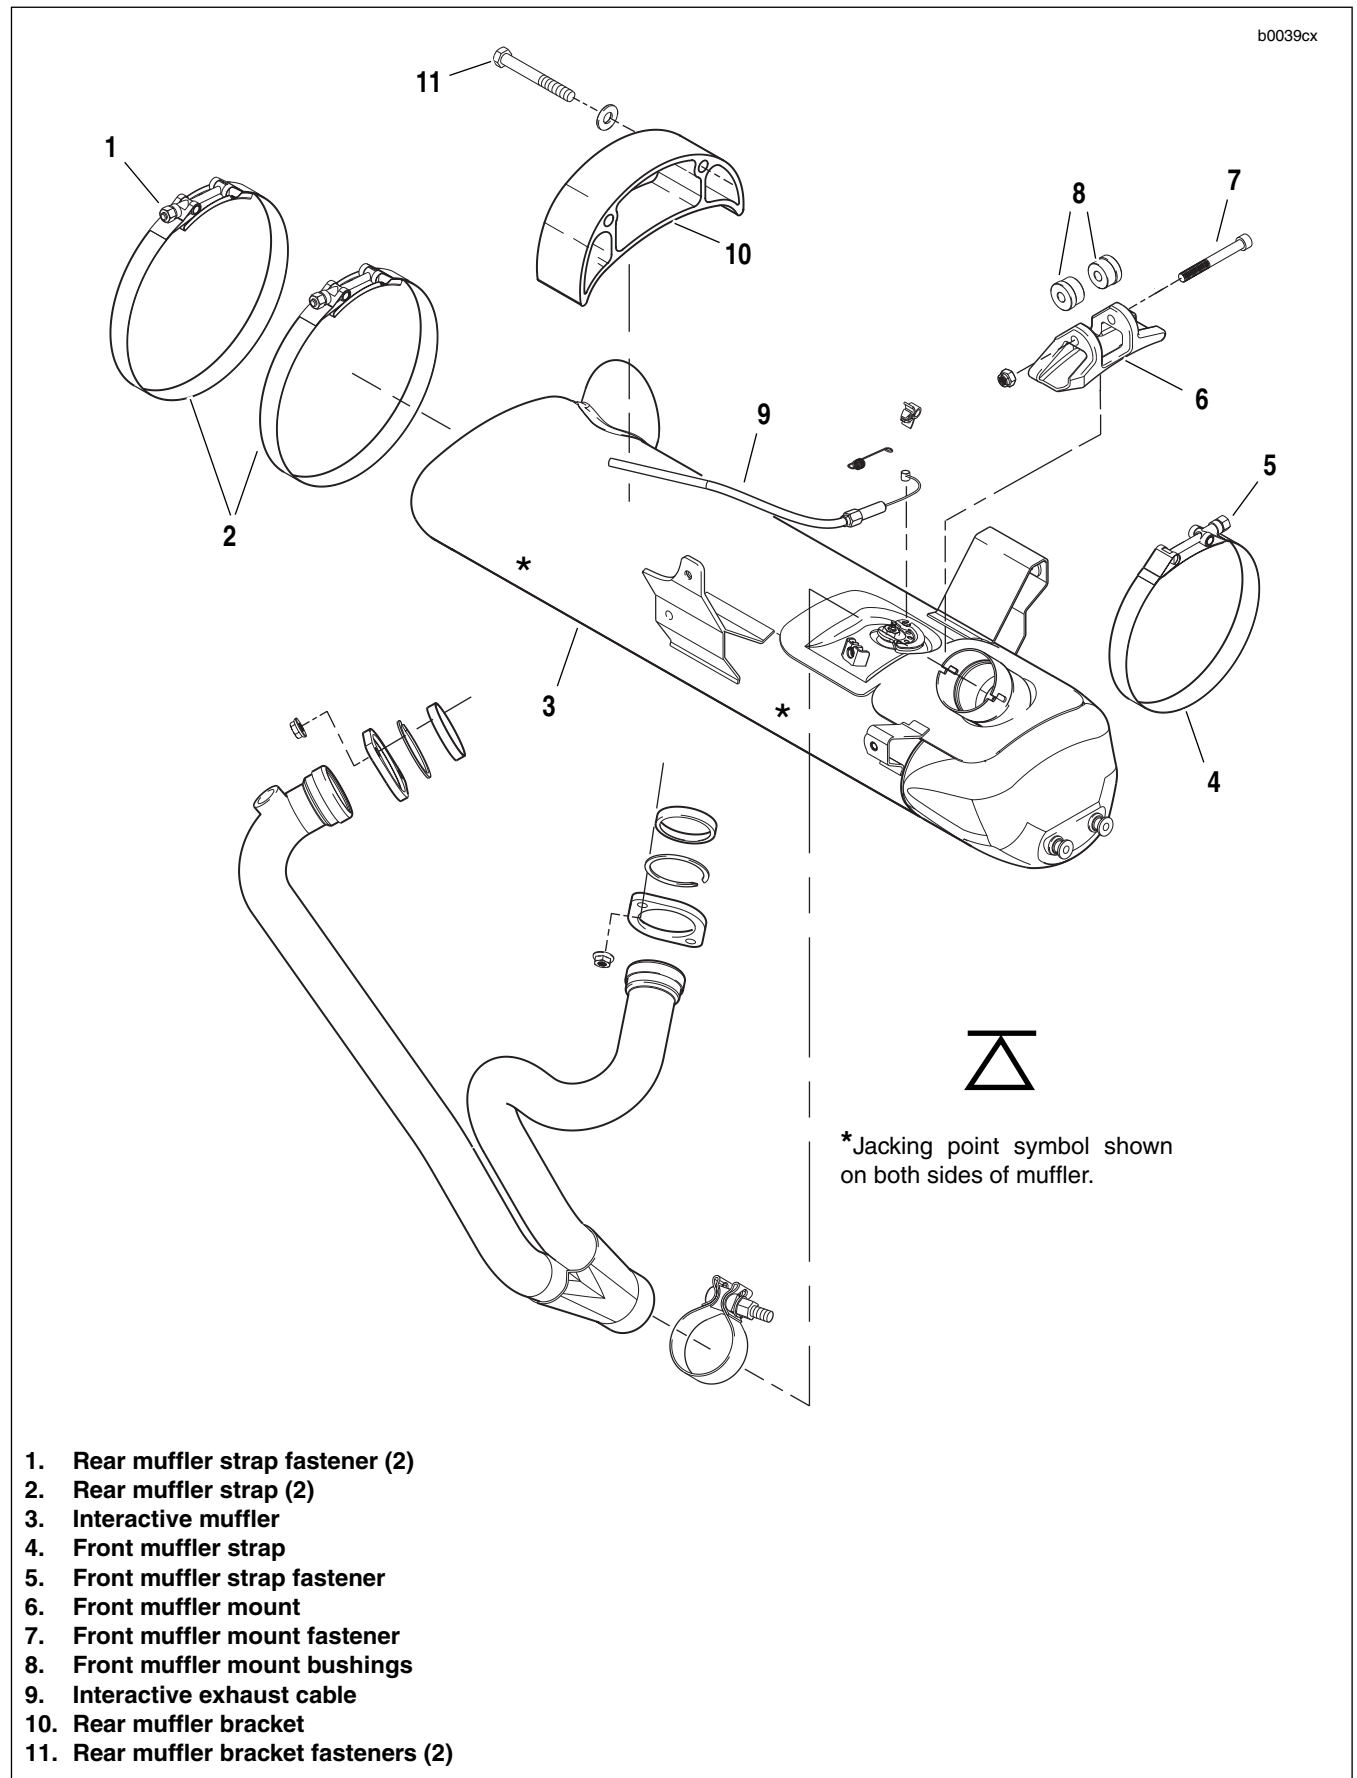

Figure 2-109. Muffer Assembly
4. See Figure 2-109. Loosen front muffler mount fastener (7) but do not remove.
2. See Figure 2-109. Remove front muffler mount fastener (7).
3. Remove strap (4) from front muffler mount (6).
4. Remove front muffler mount bushings (8) by punching out with suitable tool.
4. See Figure 2-109. Remove rear muffler bracket fasteners (10).
5. Slide oil lines from rear muffler bracket and remove rear muffler bracket (9).
1. See Figure 2-109. Slide rear muffler bracket (9) over oil lines.
2. Install rear muffler bracket fasteners (10) and tighten to 32-36 ft-lbs (43-49 Nm).
1. See Figure 2-109. Install front muffler mount bushings (8).
2. Install **new** strap on front muffler mount (6).
3. Install front muffler mount fastener (7) loosely. **Do not tighten.**